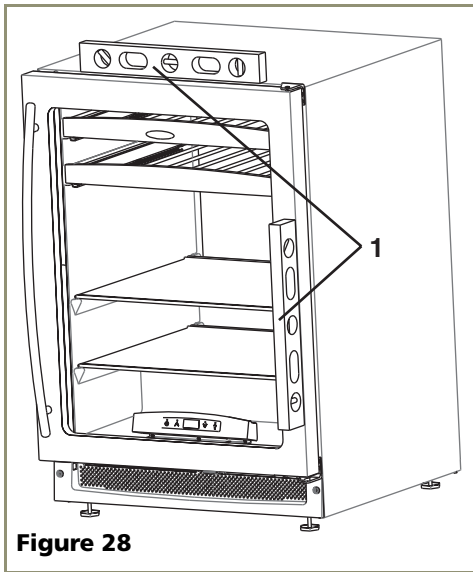

Figure 28
1. Use a level to check the levelness of the Beverage Center from front to back and from side to side. Level should be placed along top edge and side edge as shown (see **Figure 28**).